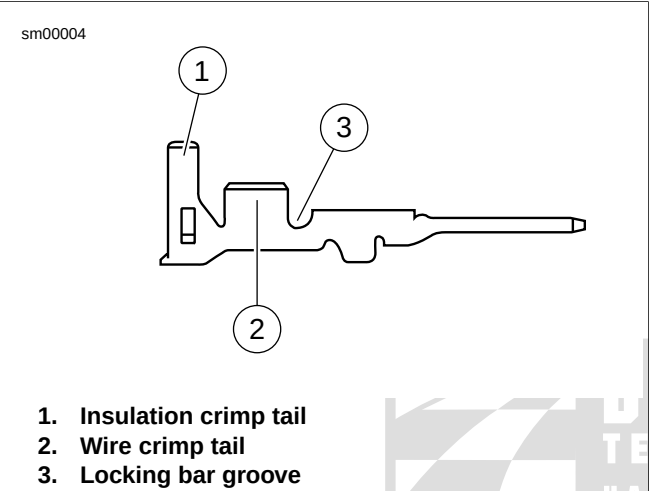
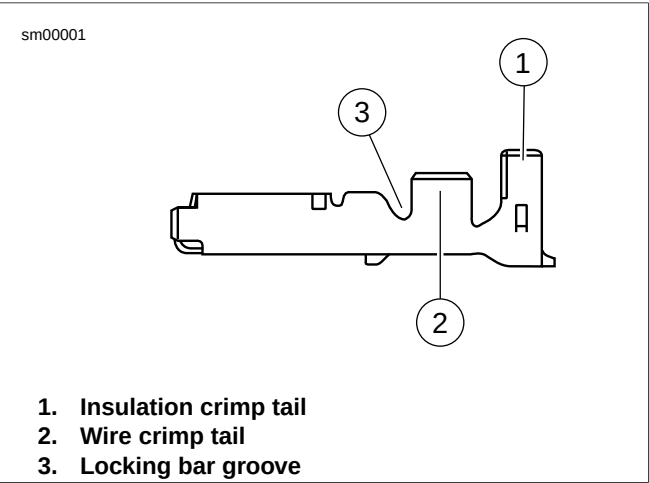

Figure A-58. Tyco 070 Multilock Unsealed Connector: Pin Terminal
Figure A-59. Tyco 070 Multilock Unsealed Connector: Socket Terminal
- 2. See Figure A-58 and Figure A-59. Select the pin/socket terminals from the parts catalog and identify the insulation crimp tails (1) and the wire crimp tails (2) and the groove for the crimp tool locking bar (3).
See Figure A-58 and Figure A-59. Hold the terminal with the insulation crimp tail (1) facing up. The tool will hold the terminal by the locking bar groove (3) and crimp the wire crimp tail (2) around the bare wire of the stripped lead and the insulation crimp tail around the insulation.